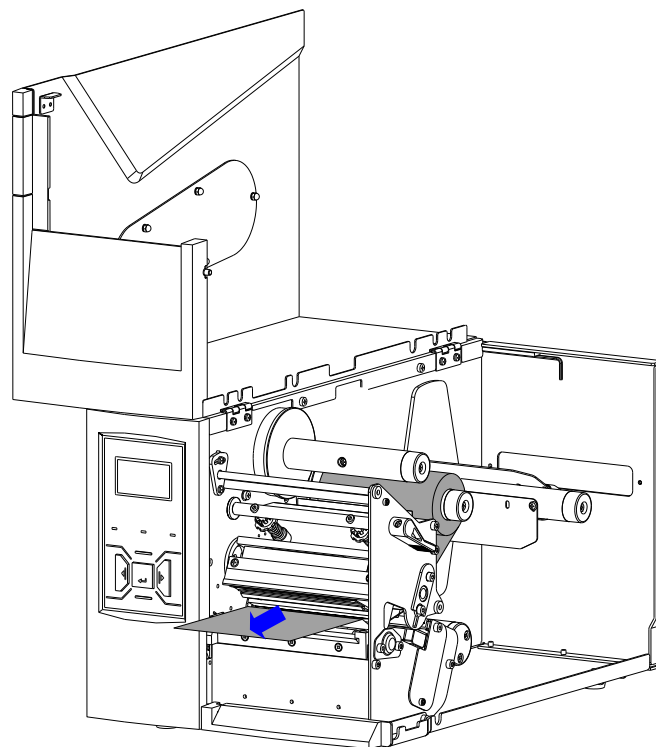

Figure 2-8 Thread Ribbon Through Printhead Assembly
5. Follow the ribbon path indicated in Figure 2-4, thread the ribbon under the Ribbon Guide Rod and pass the Printhead Assembly, make sure that the ribbon's ink side is facing the media. See Figure 2-8.